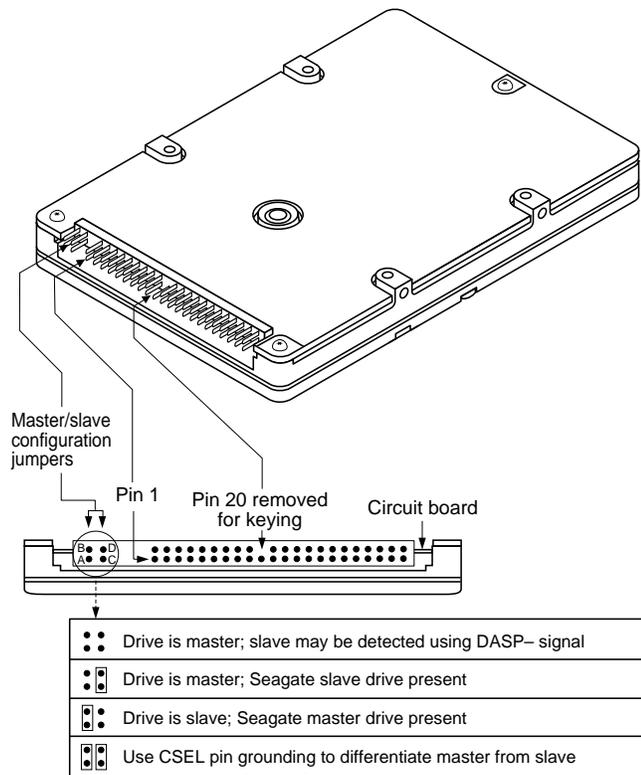

Figure 1. ATA interface connector and master/slave configuration jumpers
- 2. Install master/slave jumpers.** In a two-drive system, you need to designate one drive as the master, or drive 0, and the other drive as the slave, or drive 1. To do this, install the master/slave jumpers as shown in Figure 1. In a one-drive system, configure the drive as a master (no jumpers installed).
- 4. Connect the 44-pin interface/power cable.** Match pin 1 of the cable to pin 1 of the interface connectors on the drive and on the computer. Pin 1 is usually denoted by a stripe along one edge of the cable. The location of pin 1 on the drive interface connector is shown in Figure 1 on page 3. The cable should be no longer than 18 inches (0.457 meters).
- **Check all cables.** Make sure that all cables are securely connected. Printed circuit and ribbon cables are quite fragile. Check to see that they are not crimped or damaged. Make sure that pin 1 of the interface cable is connected to pin 1 of the interface connector on the drive and on the computer. Most ribbon cables have a stripe down one side to designate pin 1. The location of pin 1 on the drive interface connector is shown in Figure 1 on page 3.